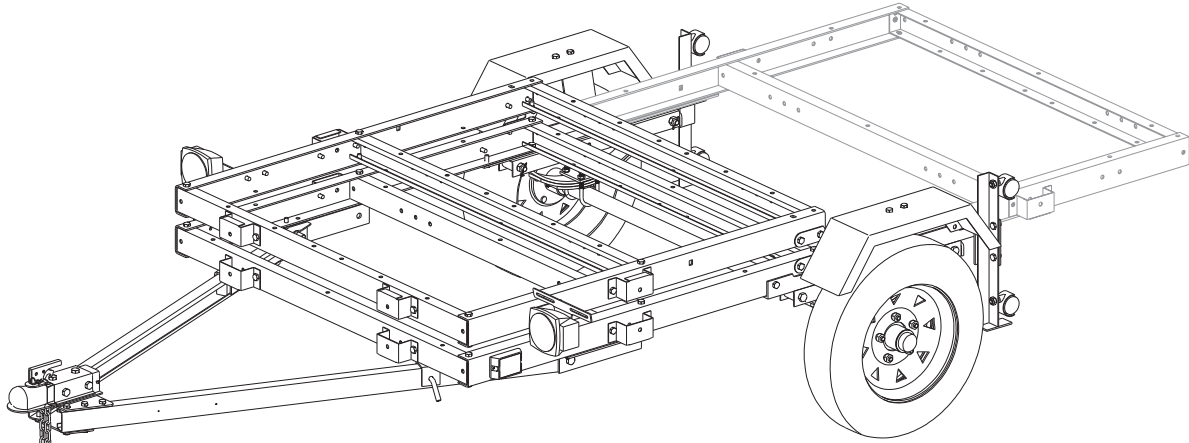

Figure 8: Folding Bed
2. With the assistance of one or two helpers, fold the rear section of the Trailer over the front section of the Trailer. Refer to Figure 8.